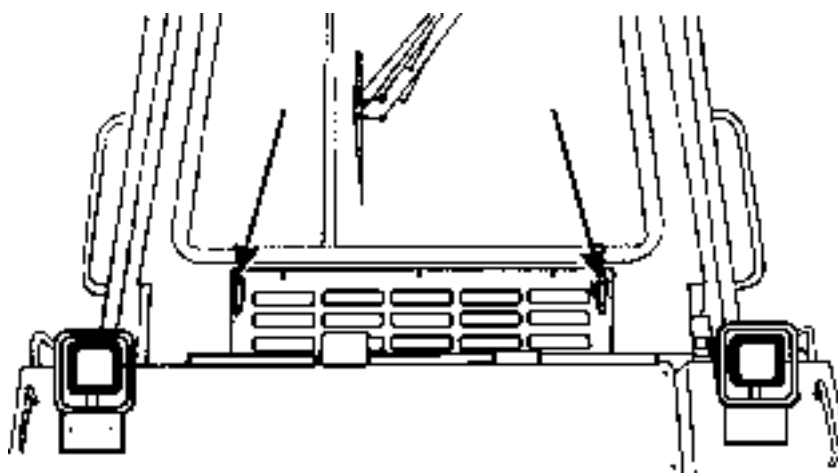

Fig. 5.58. Air Conditioner Filter Cover (Latches)
5.21.2. AIR CONDITIONER FILTER CLEANING (Fig. 5.58)